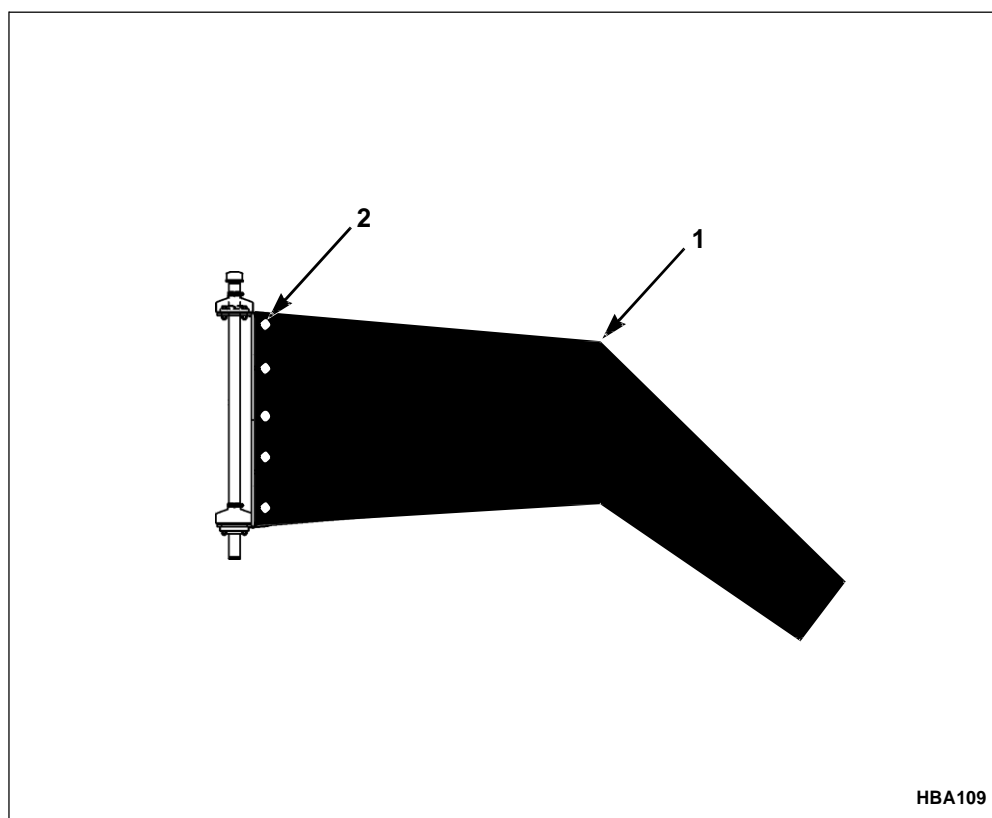

Figure 18. Installing the Wind Sock
2. One end of the sock has eyelets, open this end and slide the sock over the small end of the basket, see Figure 18.
3. Slide the sock over the basket until the entire basket is covered, see Figure 18.